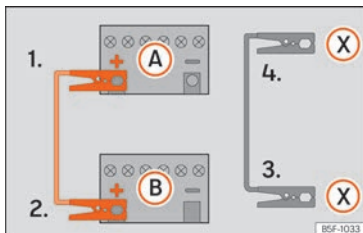

Fig. 50 Diagram of connections for vehicles with Start-Stop system.
- 4b. *In vehicles with a Start-stop system:* connect one end of the *black* jump lead (X) to a suitable ground terminal, to a solid piece of metal in the engine block, or to the engine block itself » » Fig. 50.
5. Connect the other end of the *black* jump lead (X) to a solid metal component bolted to the engine block or to the engine block itself of the vehicle with the flat battery. Do not connect it to a point near the battery (A).